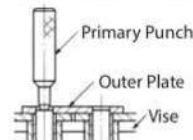

Figure 10: Tapping Pin with Primary Punch
- 1) Using a primary punch suitable for the chain size, place the punch on the head of the pin that was ground down and strike with a hammer. Be sure to strike the pins on the outer link alternately to remove them evenly and at the same time. Strike the pins until they are just about to release from the outer plate (Figure 10).